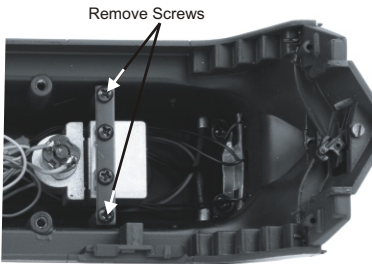

Figure 17
2. Remove the two screws securing the smoke unit inside the shell as seen in Fig 17.